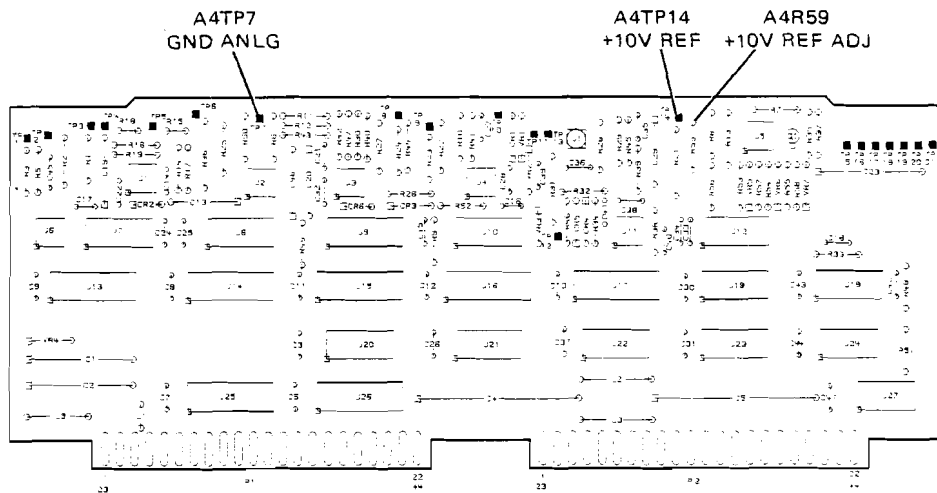

Figure 5-7. Location of +10V REF DAC Power Supply Adjustment.
5. Adjust A4R59 +10V REF ADJ for a DVM reading of 10.0000 ± 0.0001 Vdc. Refer to Figure 5-7 for location of adjustment.